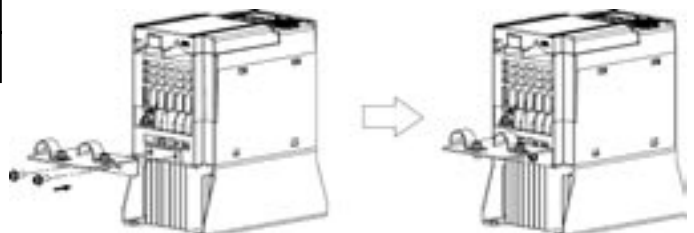

Figure 10.1 Attaching the EMC Grounding Flange
- (1) Mount the EMC grounding flange (that comes with the drive) to the drive with screws in order to ground the wire shield(s). (See Figure 10.1.)